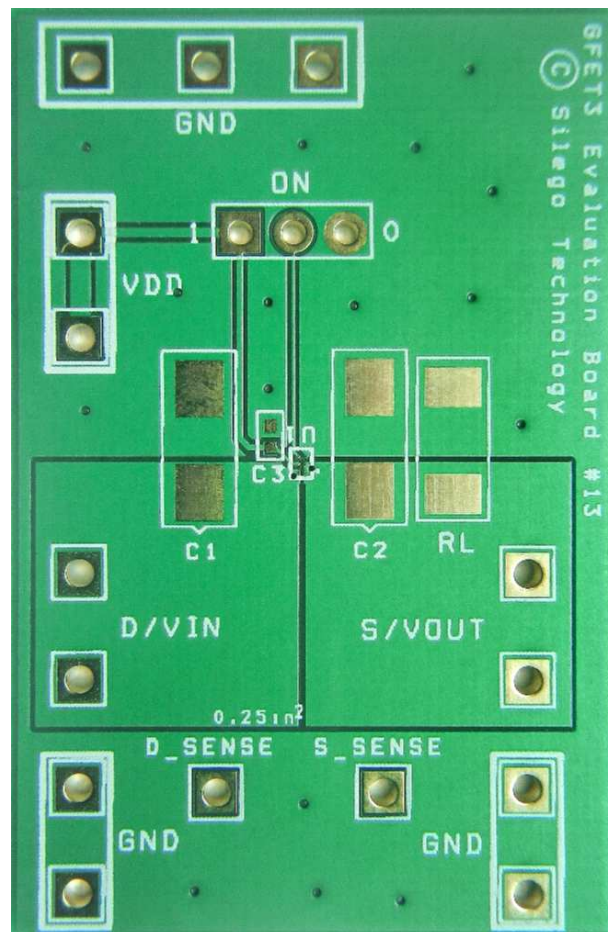

Figure 28. SLG59M1746C Evaluation Board
2. Since the VIN and VOUT pins dissipate most of the heat generated during high-load current operation, it is highly recommended to make power traces as short, direct, and wide as possible. A good practice is to make power traces with absolute minimum widths of 15 mils (0.381 mm) per Ampere. A representative layout, shown in Figure 28, illustrates proper techniques for heat to transfer as efficiently as possible out of the device;
A GreenFET Evaluation Board for SLG59M1746C is designed according to the statements above and is illustrated on Figure 28. Please note that evaluation board has D_Sense and S_Sense pads. They cannot carry high currents and dedicated only for $R_{DS(ON)}$ evaluation.